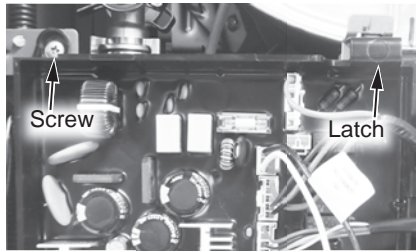

Figure 107 - Control board location
- 6 Locate the screw securing the control board panel as shown in Figure 107. Use a Phillips screwdriver to remove the screw and place it aside in a safe place for reinstallation.